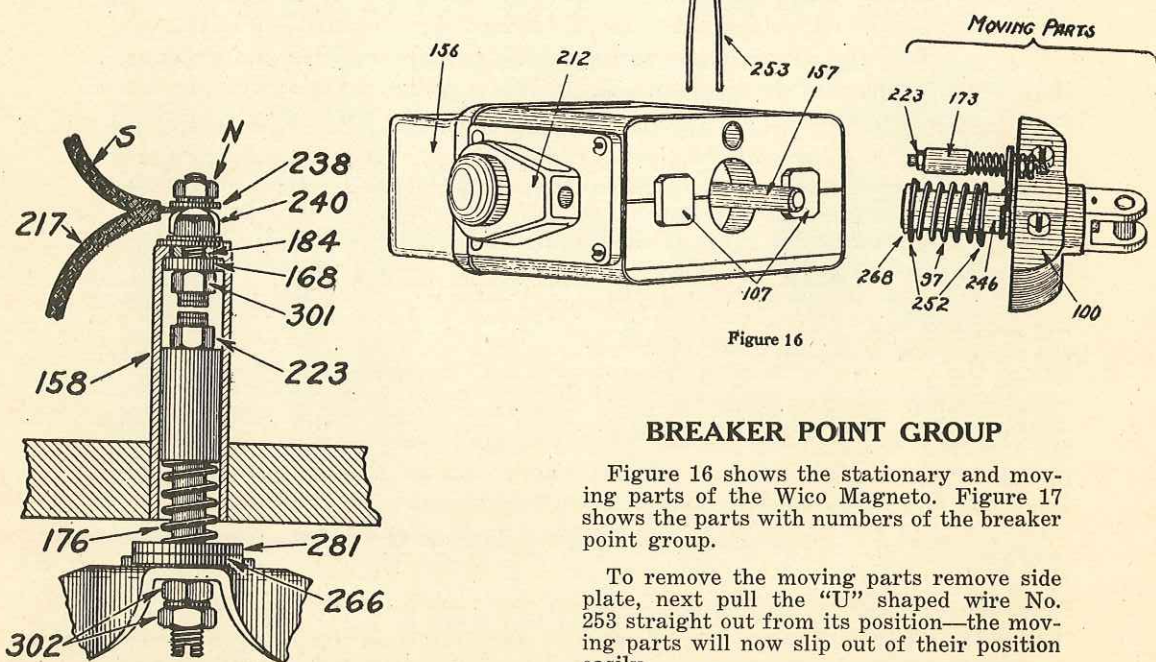

Figure 16
Figure 16 shows the stationary and moving parts of the Wico Magneto. Figure 17 shows the parts with numbers of the breaker point group.
To replace the moving contact (223): Withdraw the moving parts (see Figure 16), and remove the old contact and its spring (176) from the breaker point plate by unscrewing the two nuts (302). Substitute the new moving contact, being careful to replace the felt washers (266 and 281) as shown in Figure 17.
To replace fixed contact (301): Remove the front cover and the spring support (253) and withdraw the moving parts (see Figure 16). Disconnect condenser lead (S) and primary lead (217) from breaker point tube (158). Remove all nuts and washers from shank of the contact (301) and push contact down and out of tube. There are two insulating washers (168 and 184) inside of tube and these should be removed also.